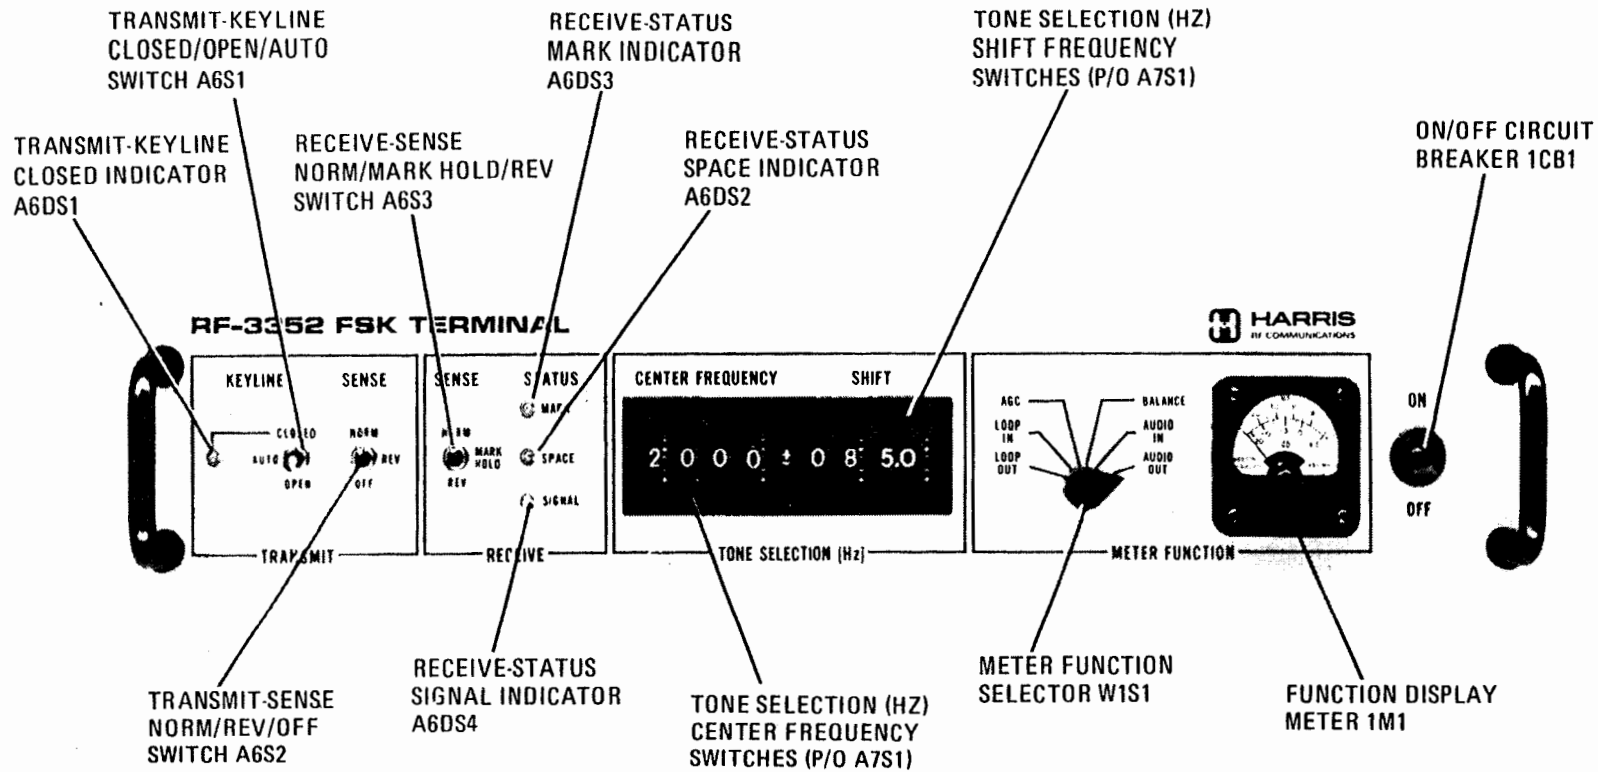

Figure 3-1. RF-3352 FSK Terminal Front Panel Controls, Indicators, and Switches
In an emergency, place the front panel power ON/OFF Circuit Breaker (1CB1, Figure 3-1) in OFF position. Disconnect primary power.
The following is the suggested initial position of controls and switches, and is to be used as a guide prior to applying power to the terminal. Individual control and switch positions may vary from this guide as individual system requirements dictate. Refer to Figures 3-1 and 3-2 for control and switch locations.
The input and output loop currents can be adjusted between 20mA and 60 mA (Polar Mode) or 20 mA and 80 mA (Neutral Mode) in the following manner: Place METER FUNCTION Selector W1S1 in either LOOP IN or LOOP OUT position and adjust either INPUT LOOP ADJUST Control A5R2 or OUTPUT LOOP ADJUST Control A5R1, respectively, to obtain the desired loop current. (Refer to Figures 3-1 and 3-2 for selector and control locations.)
Figures 3-1 and 3-2 show the location of all RF-3352 FSK Terminal front and rear panel connectors, controls, indicators and switches. The function of these components is described in Table 3-1.
- a. Refer to Figure 3-1. Place METER FUNCTION Selector W1S1 in AGC position.
(Note: Refer to Figure 3-1 and 3-2 for component locations.)
(Note: Refer to Figures 3-1 and 3-2 for component locations.)
- Refer to Figure 3-1. Place METER FUNCTION Selector W1S1 in AGC position.
In an emergency, place the front panel power ON/OFF Circuit Breaker (1CB1, Figure 3-1 in OFF position. Disconnect primary power.